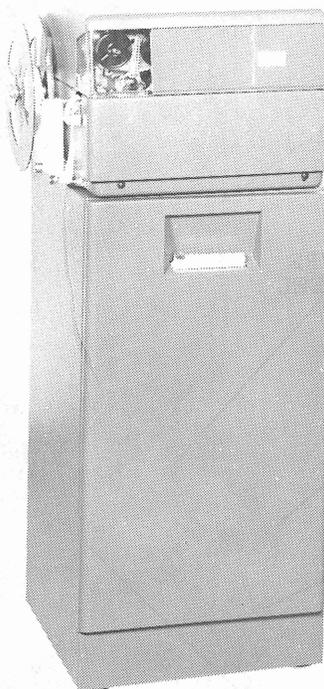

Figure 1 - 37 Receive-Only Typing Reperforator Set
1.01 This section provides the description and operational procedures for the 37 Receive-Only Typing Reperforator (ROTR) Set (Figure 1). It is reissued to include the ROTR used for No. 1 ESS-ADF (ADNET), 85A2, 86A2, and 86B2 Selective Calling Service. Marginal arrows are used to indicate changes or additions.